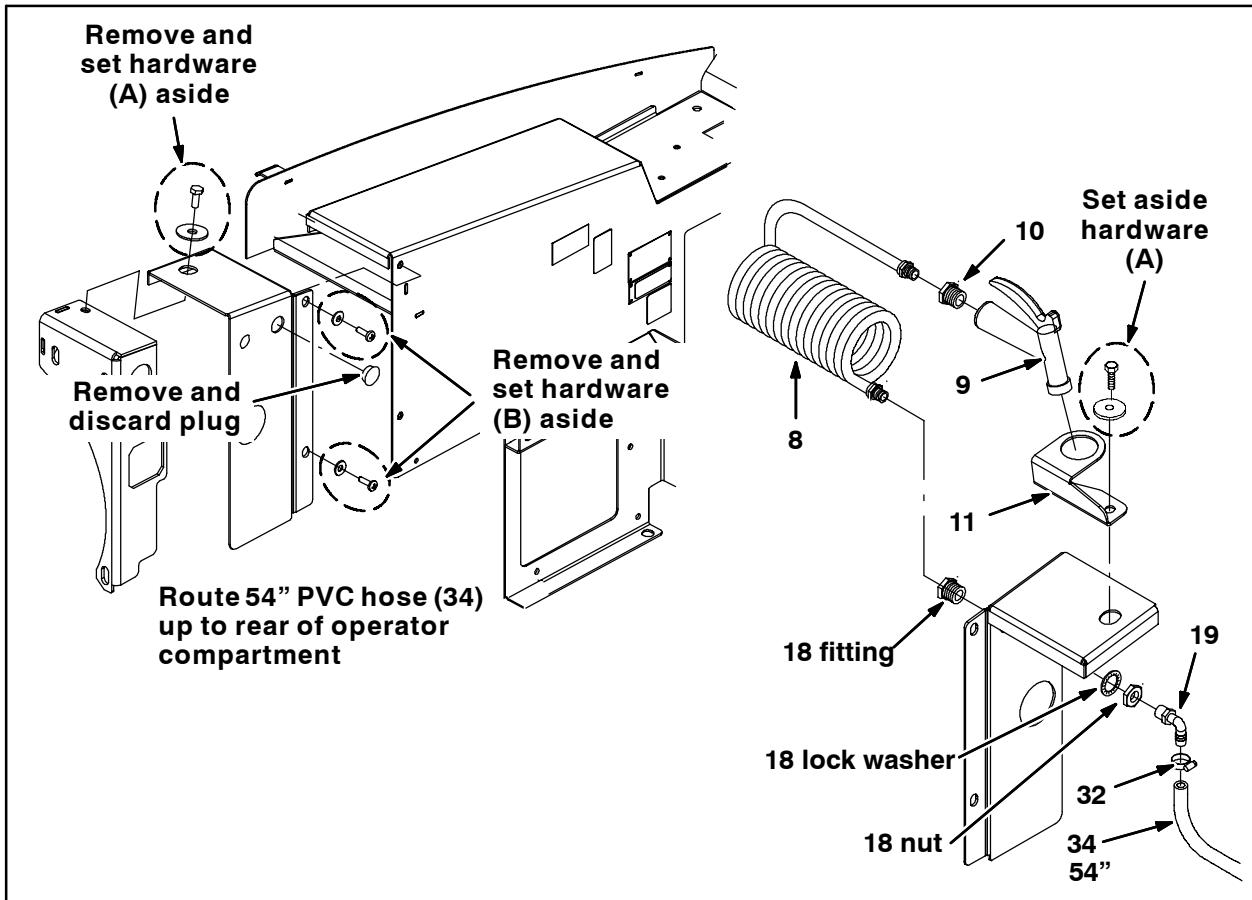

FIG. 6
10. Remove the removable panel from the rear corner of the operator compartment. Set the panel and hardware (A) and (B) aside. Refer to Fig. 6.
11. Remove the plug from the removable panel. Discard the plug. Refer to Fig. 6.
12. Route the 54" PVC hose (34) up to the rear of the inner back corner of the operator compartment. Refer to Fig. 6.
13. Remove the lock washer and nut from straight fitting (18) and use the lock washer and nut to install the straight fitting into the rear of the operator compartment where the plug was previously located. Refer to Fig. 6.
15. Apply sealant onto the threads of the 90° plastic fitting (13) already installed on the 54" PVC hose (34) and install the fitting into the straight fitting (18) installed in the rear of the operator compartment. Refer to Fig. 6.
16. Apply sealant onto the threads at one end of the coiled water hose (8) and install the hose into the straight fitting (18) installed in the rear of the operator compartment. Refer to Fig. 6.
17. Use the saved hardware (B) to reinstall the removable panel into the rear corner of the operator compartment. Refer to Fig. 6.
18. Use the saved hardware (A) to install the spray handle mounting bracket (11) onto the removable panel. Refer to Fig. 6.
19. Thread the straight brass fitting (10) into the spray gun (9). Refer to Fig. 6.
20. Apply sealant onto the threads at the other end of the coiled water hose (8) and thread the spray gun (9), with brass fitting already installed (10), onto the coiled water hose. Refer to Fig. 6.